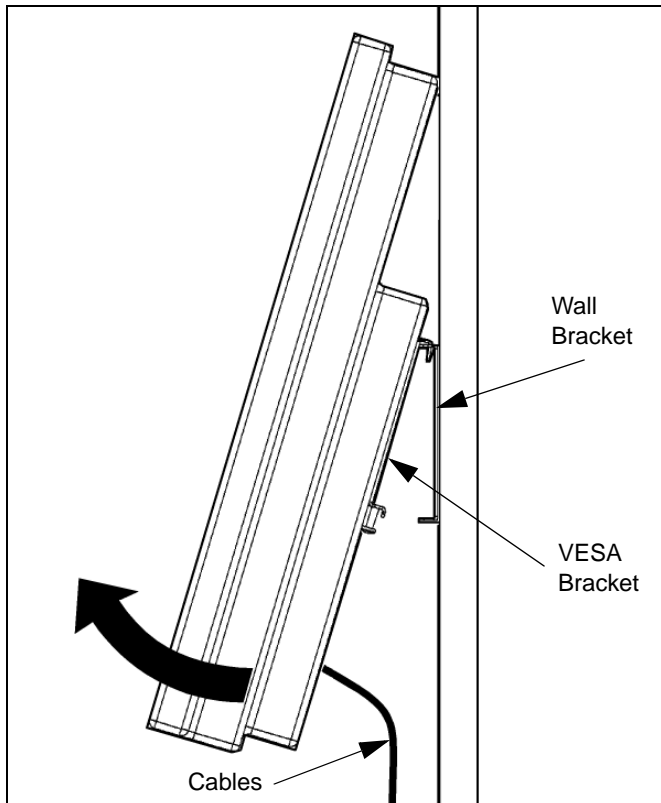

Figure 15: Cable Routing
- With display hanging on VESA bracket Upper tabs, pull bottom of display outward and away from wall. (see figure 15)
- Route cables between display back and wall, and Connect cables to the display. (see figure 15)